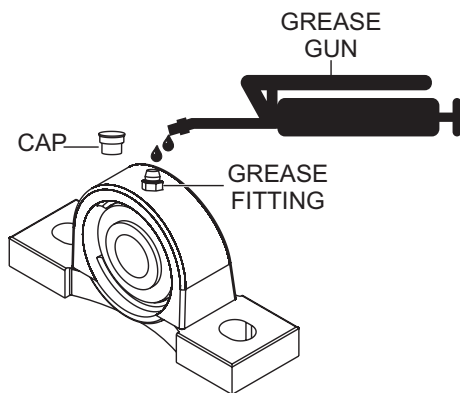

Figure 10. Bearing Lubrication
1. Each truss section has a set of pillow block bearings (Figure 10) that will require lubrication. Always make sure that the bearings are lubricated before each use of the screed. See the maintenance section in this manual for bearing lubrication intervals.